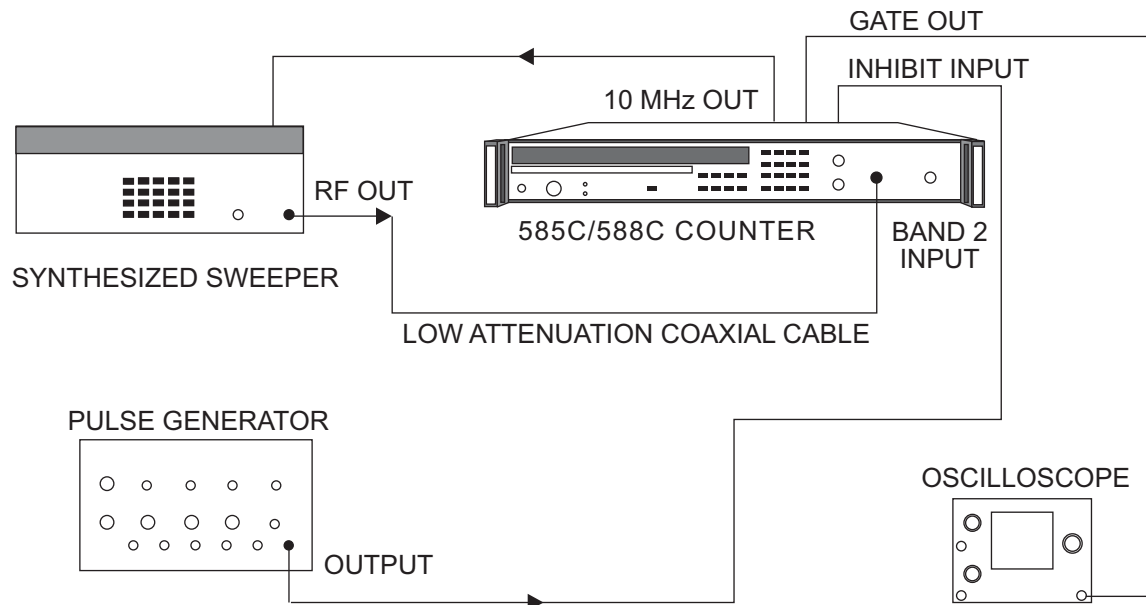

Figure 6-9. Band 2 Gate Error Test Setup
1. Connect the equipment as shown in Figure 6-9 and turn equipment on.